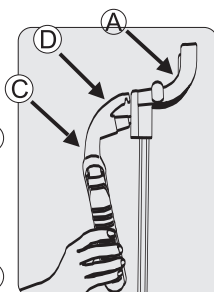

Figure 9
- 2.Insert the hook(D) of the folding rack(C) into the hole of hanger(A) about tilting 40°. (Figure 9 )